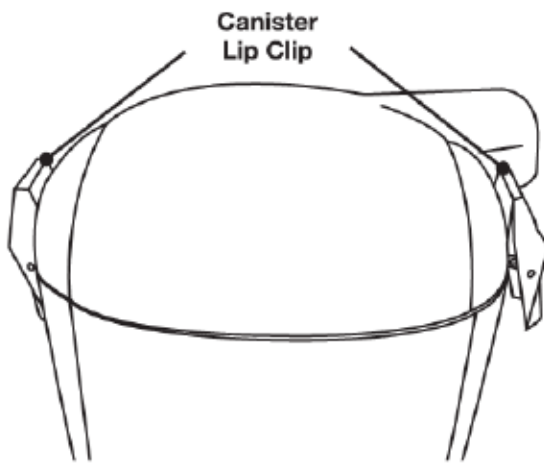

Fig 1
2. To open the canister lid press on the canister lid tabs on each side of the unit and lift canister lid. (Fig. 1)